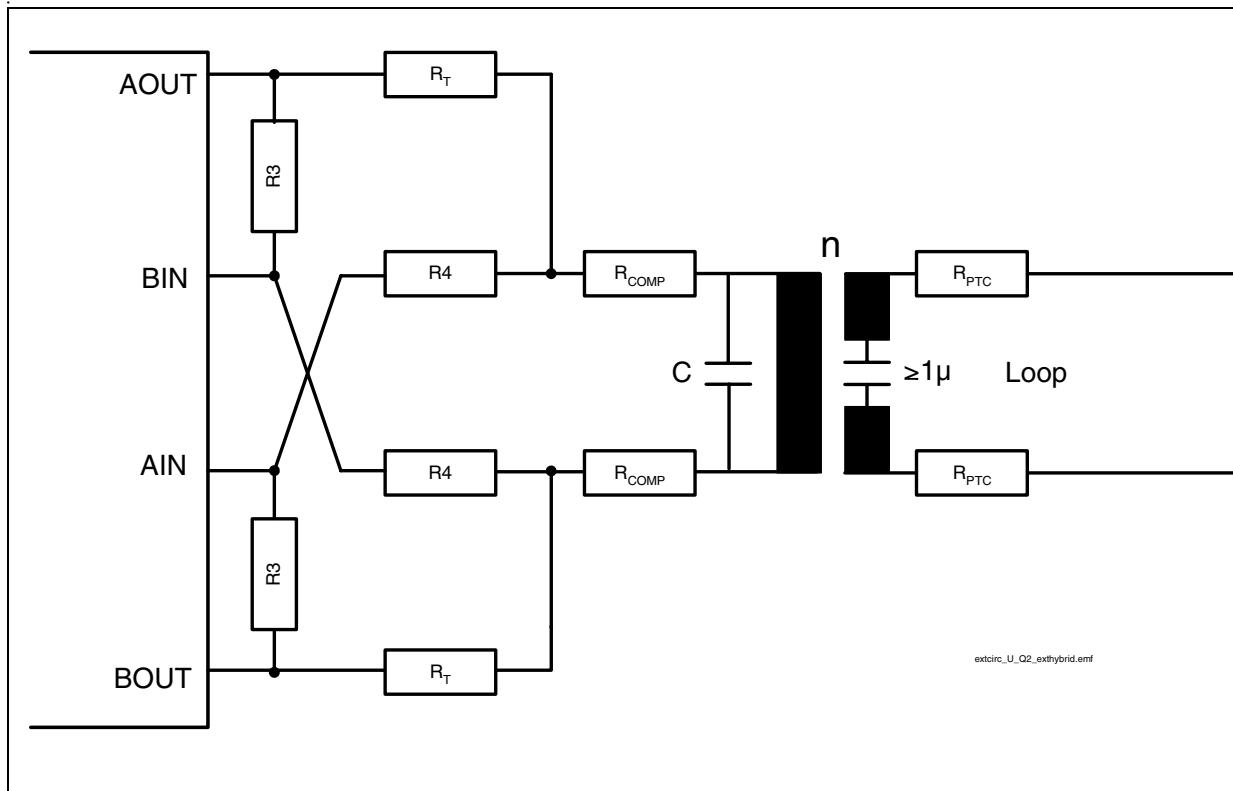

Figure 38 External Circuitry Q- and T-SMINT®O
*the necessary protection circuitry is not displayed in Figure 38*